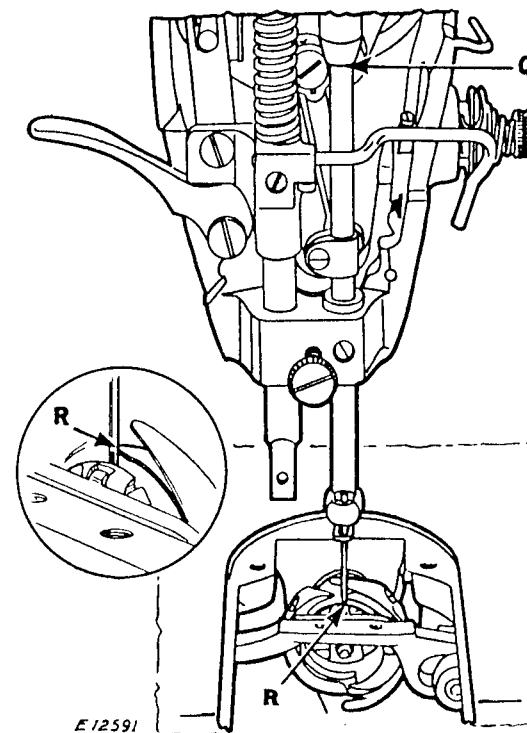
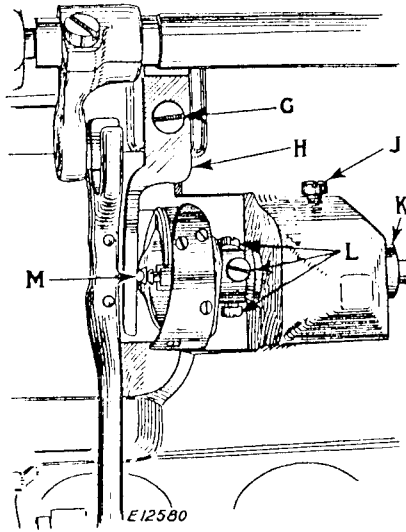
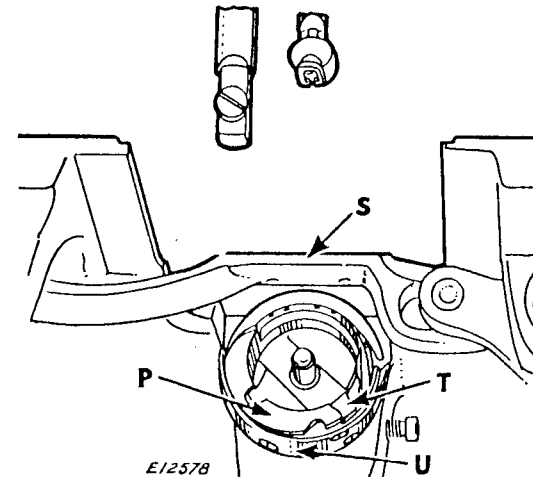

Fig.21. Needle and Sewing Hook Correctly Timed
Fig. 22. View of Underside of Machine Showing Bobbin Case Holder Position Bracket (H) and Adjustments on Machine
Fig. 23. Showing Correct Position of Thread Guard (U) and Bobbin Case Holder (P) for Removal of Sewing Hook
To determine that the hook is correctly timed, place a new needle in the machine, then turn the balance wheel over toward you until the LOWER TIMING MARK on the needle bar is centered with the lower end of the needle bar bushing as shown at (Q, Fig. 21), when the needle bar is on its upward stroke. With the needle bar in this position, the point of the hook should be at the center of the needle as shown at (R, Fig. 21). The inset in circle at the left of Fig. 21 plainly shows this position of the hook point relative to the needle.
In case the hook is not correctly timed, loosen the three screws (L, Fig. 22) in the hub of the hook. These three screws can be reached from the top of the machine bed through the open-
ing left by the removal of the throat plate, although, for purposes of illustration, the screws are shown only in the view of the underside of the machine in Fig. 22. Rotating the balance wheel of the machine will bring these screws, one at a time, directly under the throat plate opening where they can be easily reached with a screwdriver from the top of the machine bed.
After loosening the three screws (L, Fig. 22) turn the hook on its shaft to bring the point of the hook at the center of the needle as shown at (R, Fig. 21), then tighten the three screws (L, Fig. 22).
The hook should be set as close as possible to the needle without touching. If the hook is too close to the needle or too far away from it, loosen the three screws (L, Fig. 22) and the bushing screw (J, Fig. 22) and drive the bushing (K, Fig. 22) in or out, as may be required, until the hook just clears the needle, being very careful not to damage the bushing, then securely tighten the bushing screw (J) and the three screws (L).
Remove the needle, slide plate and bobbin case. Take out the screw (G, Fig. 22) and remove the bobbin case holder position
bracket (H, Fig. 22). Loosen the three set screws (L, Fig. 22) in the hub of the hook, then turn the balance wheel over toward you until the feed bar (S, Fig. 23) is raised to its highest point. Turn the sewing hook until the thread guard (U, Fig. 23) is at the bottom, as shown in Fig. 23, and turn the bobbin case holder (P, Fig. 23) until it is in the position shown in Fig. 23. The sewing hook can then be removed from the hook shaft.
When placing a new sewing hook on the shaft, have the thread guard (U) of the hook at the bottom and the bobbin case holder (P) turned to the position shown in Fig. 23, so that the hook will clear the feed bar (S).
When the hook is in position on the shaft, turn the bobbin case holder (P, Fig. 23) until the notch (T, Fig. 23) is at the top, then replace the bobbin case holder position bracket (H, Fig. 22) being careful to see that the position stud (M, Fig. 22) enters the notch at the top of the bobbin case holder, as shown in Fig. 22,
then securely fasten the position bracket by means of the screw (G, Fig. 22). Replace the needle and time the sewing hook as instructed on pages 17 and 18. When tightening the three screws (L, Fig. 22) in the hub of the hook, draw the hook shaft toward the needle bar end of the machine and press the hook toward the balance wheel to take up the end play in the shaft. Then replace the bobbin case and slide plate.